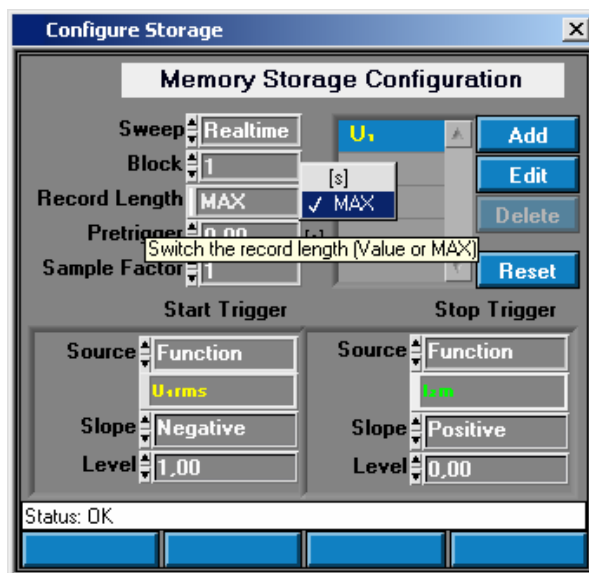

Figure 4-19. Select the Record Length in Second or MAX
- Record Length - sets the record length in seconds include pretrigger. For the Average sweep is not possible to select record length shorter than average time. The value range depends on instrument available memory. The user can select MAX to fill all available memory. Click on the right side of this field (the symbol [] is displayed for MAX or [s] is displayed for second) to switch between MAX and value in second (Figure 4-19).